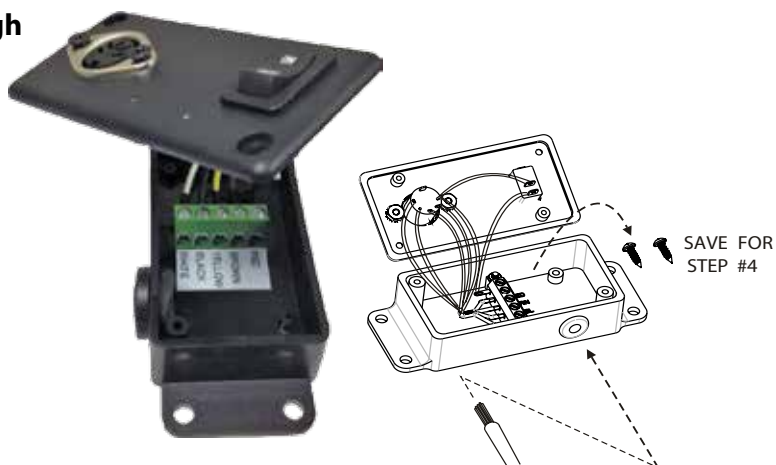

Figure 25-1
**3. Open the enclosure and insert the wires through the grommet.** Pull enough wire through to be able to manipulate the ends. (Save screws to seal the enclosure at the end.) [Figure 25-1]